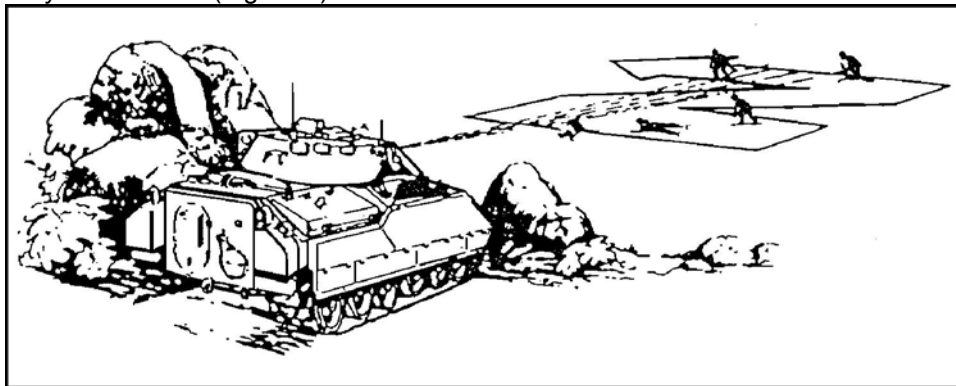

Figure 7. Z pattern of fire.
11. Sense tracers and adjust 20- to 25-round bursts onto the target area in a Z pattern from the near to far edge of the target until the target is destroyed or suppressed, or until CEASE FIRE is given by the Bradley commander (Figure 7).